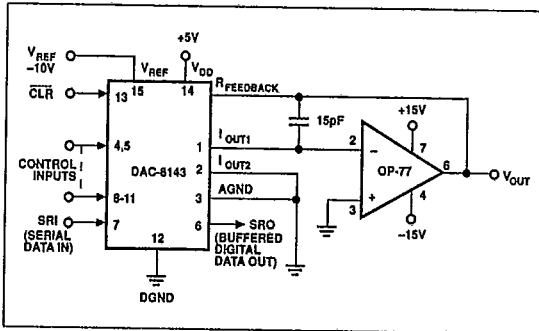

FIGURE 7: Unipolar Operation with High Accuracy Op Amp (2-Quadrant)
1. Phase compensation (see Figures 7 and 8).
The circuit shown in Figures 7 and 8 may be used with an AC or DC reference voltage. The circuit's output will range between 0V and $+10(4095/4096)V$ depending upon the digital input code. The relationship between the digital input and the analog output is shown in Table 2. The V_{REF} voltage range is the maximum input voltage range of the op amp or $\pm 25V$, whichever is lowest.
- Nominal full scale for the circuits of Figures 7 and 8 is given by $FS = -V_{REF} \left(\frac{4095}{4096} \right)$.
- Nominal LSB magnitude for the circuits of Figures 7 and 8 is given by $LSB = V_{REF} \left(\frac{1}{4096} \right)$ or $V_{REF}(2^{-n})$.
The transfer function for the DAC-8143 connect in the multiplying mode as shown in Figures 7 and 8 is:
In most applications, linearity depends upon the potential of I_{OUT1} , I_{OUT2} , and AGND (pins 1, 2 and 3) being exactly equal to each other. In most applications, the DAC is connected to an external op amp with its noninverting input tied to ground (see Figures 7 and 8). The amplifier selected should have a low input bias current and low drift over temperature. The amplifier's input offset voltage should be nulled to less than $\pm 200 \mu V$ (less than 10% of 1 LSB).